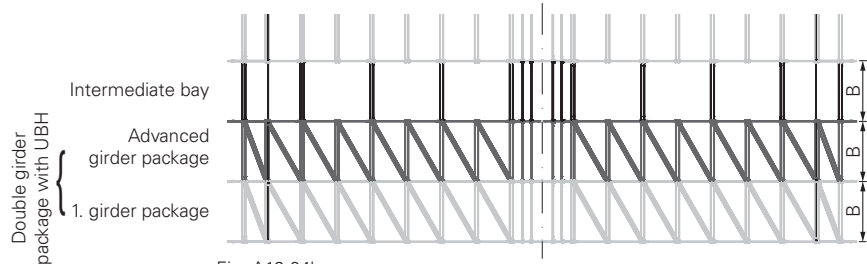

Fig. A12.04b
- The edge bay can consist of one or two girder packages. (Fig. A12.04b)